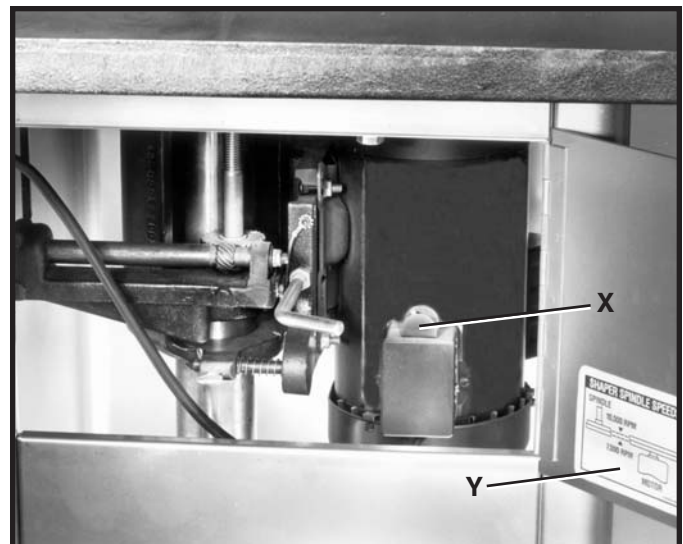

Fig. 46
A chart (Y) Fig. 46, illustrating the correct belt placement for 7,000 or 10,000 R.P.M. is located on the inside panel of the motor access door.
1. **DISCONNECT THE MACHINE FROM THE POWER SOURCE** and open motor access door, as shown in Fig. 46.
The motor is equipped with a reversing switch (X) Fig. 46, which is located on the motor junction box. **CAUTION:** Never attempt to reverse the rotation of the spindle with the motor running.